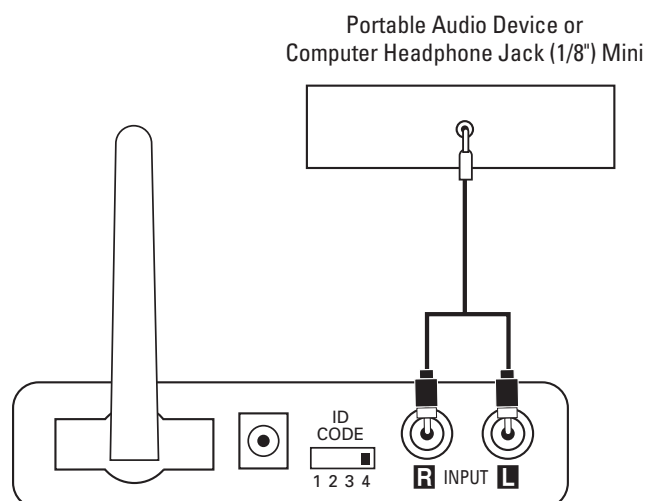

Figure 5.
Step 1. Connect the RCA – 1/8-inch mini-jack cable (included) to the preamp out, line out or headphone output of your portable audio player and the inputs on the transmitter module ⑭, as shown in Figure 5.